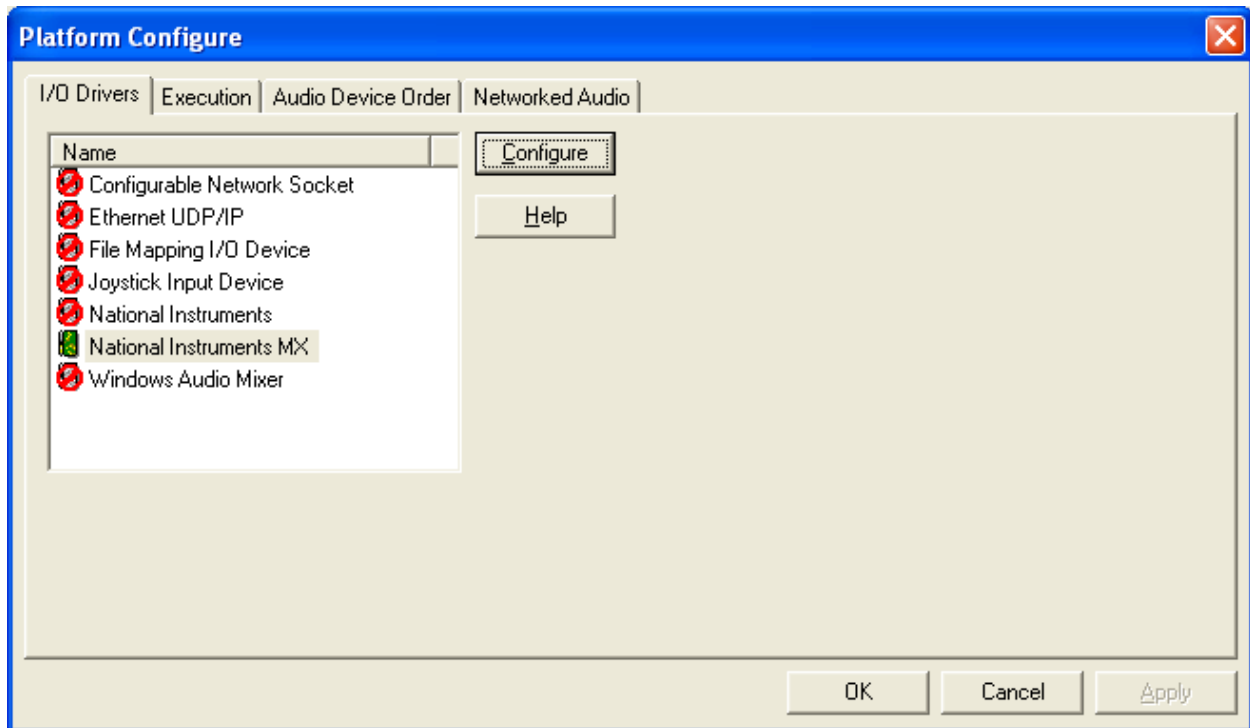

Figure 2. Platform Configure Dialog Box
2. Click on the **Configure** menu to open the Platform Configure dialog box (shown in Figure 2).